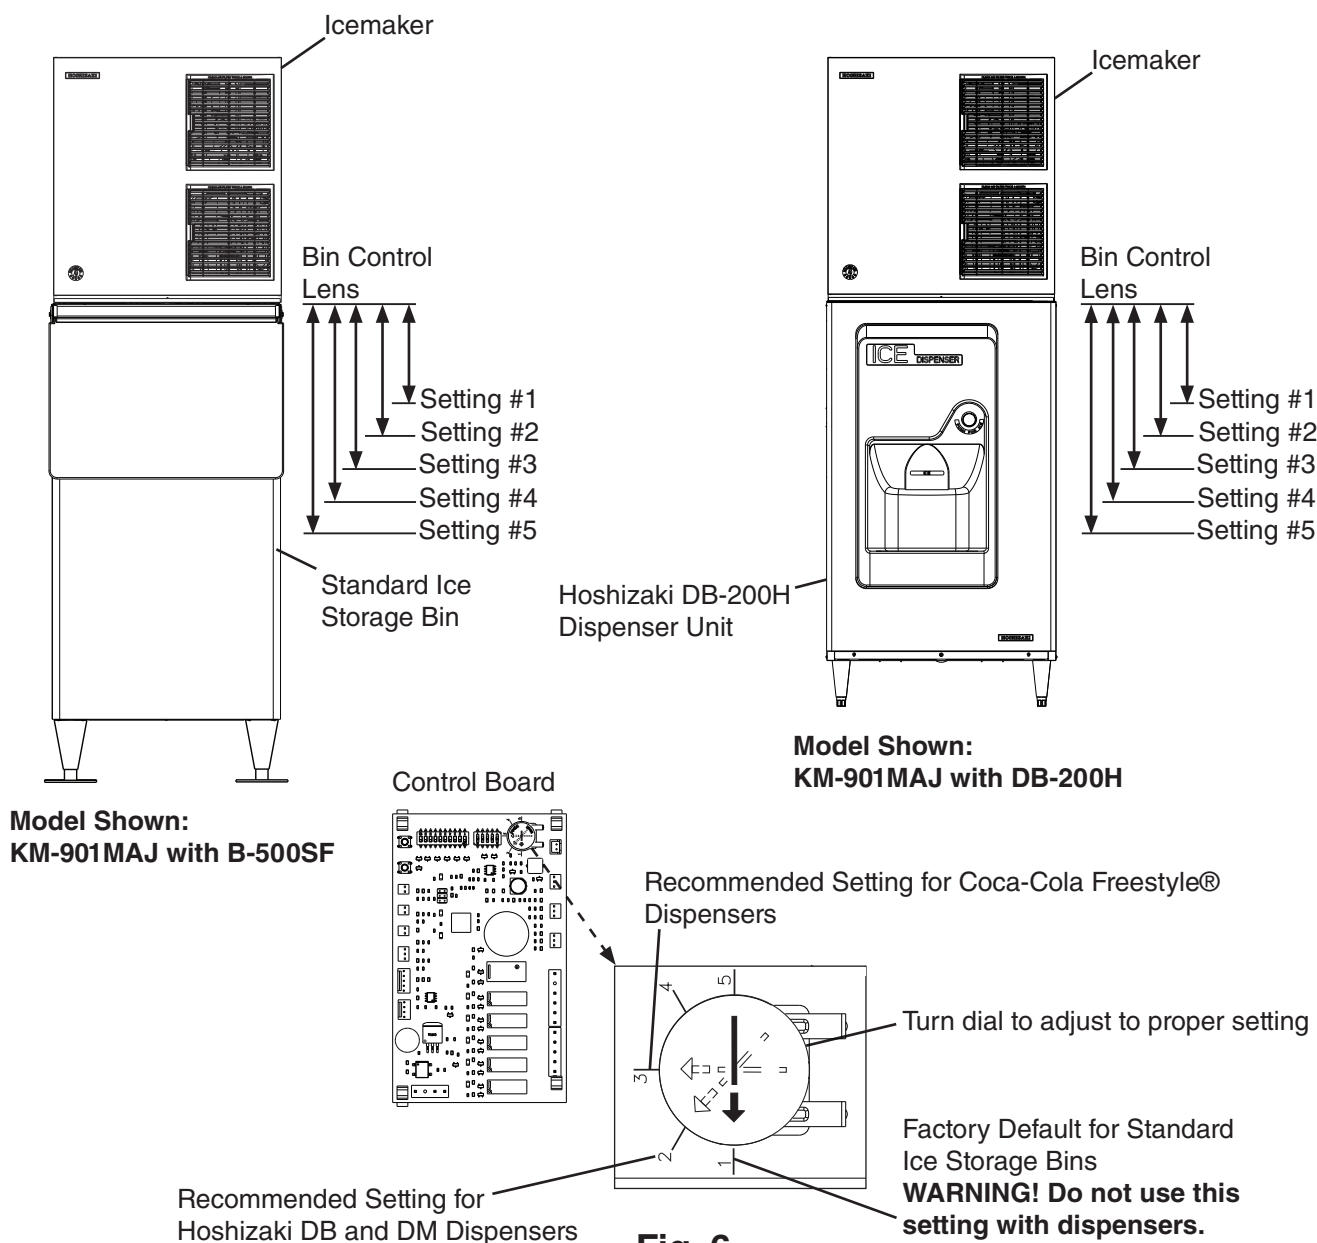

Fig. 6
- 2) Confirm ultrasonic bin control setting for proper application. See the table below for settings. See Fig. 6. for ice level reference.